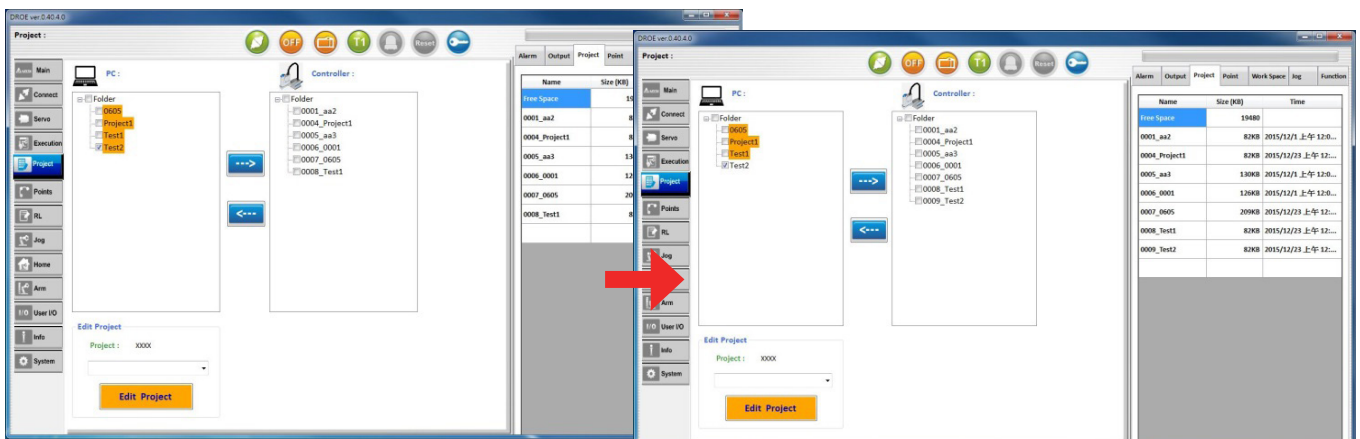

Fig.20 Upload Projects on PC Side to MS Controller
- (1) Upload the projects on the PC side to the MS controller side: tick the project in the PC-side project list, and click “--->” to upload the projects on the PC side to the MS controller side, as shown in Fig.20.